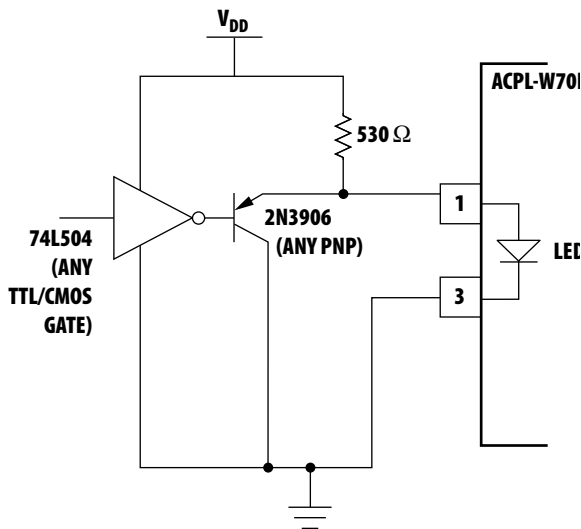

Figure 15. TTL interface circuit for the ACPL-W70L families.
1. Use of drive circuits where current is shunted from the LED in the LED "off" state (as shown in Figures 15 and 16). This is beneficial for good CM_H .
Using any one of the drive circuits in Figures 15-17 with $I_F = 6 mA$ will result in a typical CMR of 10 kV/ μs for ACPL-W70L AND ACPL-K73L, as long as the PC board layout practices are followed. Figure 15 shows a circuit which can be used with any totem-pole-output TTL/LSTTL/HCMOS logic gate. The buffer PNP transistor allows the circuit to be used with logic devices which have low current-sinking capability. It also helps maintain the driving-gate power-supply current at a constant level to minimize ground shifting for other devices connected to the input-supply ground.